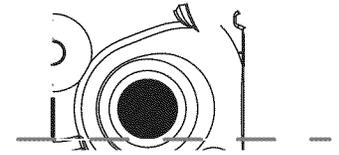
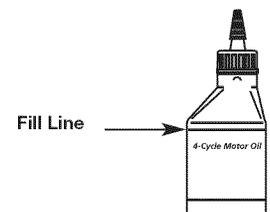

Fig. 18
Fig. 22
5. Look into the oil fill hole, use a flashlight if needed. The oil should be just touching the inner most thread (Fig. 18).
**NOTE:** Use the bottle and spout saved from initial use to measure the correct amount of oil. The top of the label on the bottle measures approximately 3.04 fl.oz. (90 ml) (Fig. 22). Check the level. See *Checking the Oil Level*. If the level is low, add a small amount of oil and recheck. Do not overfill (Fig. 18).